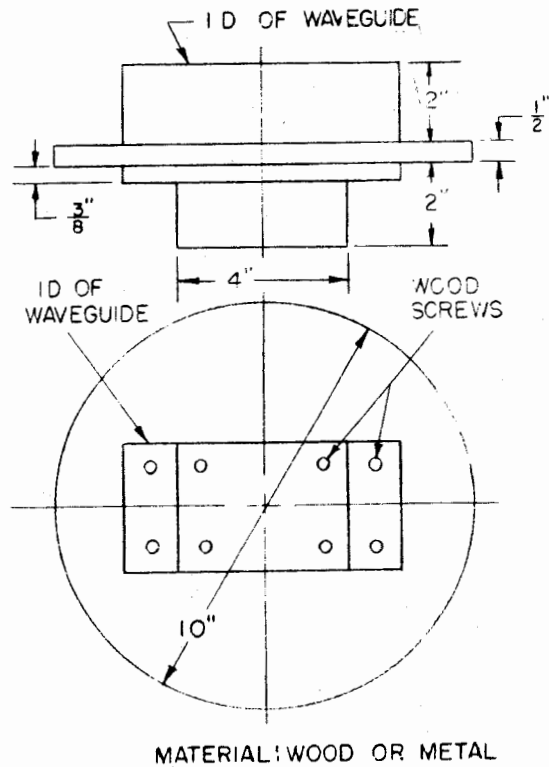

Figure 11-37. Alignment Jig for 6-1/2 x 3-1/4 inch Waveguide
g. Start the waveguide run at the transmitter and continue to the deck. On installations of 6-1/2 inch by 3-1/4 inch waveguide, a jig as shown in Figure 11-37 should be used at the transmitter. This jig will insure proper alignment between the first section (which contains a choke flange) and the trans-